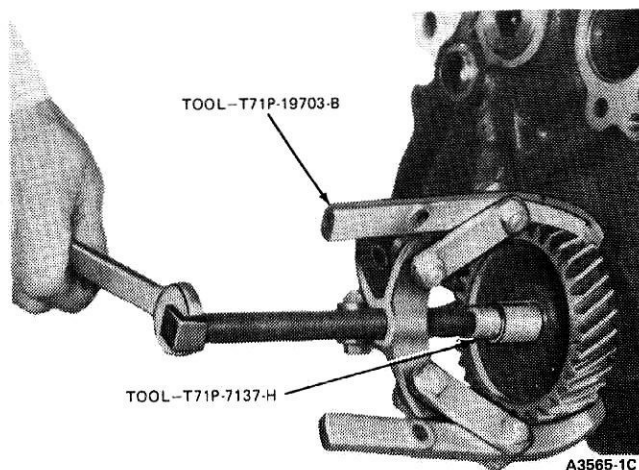

FIG. 25 Removing Crankshaft Gear
3. Use the gear pullers as shown in Fig. 25 and remove the crankshaft gear. Remove the key from the crankshaft.